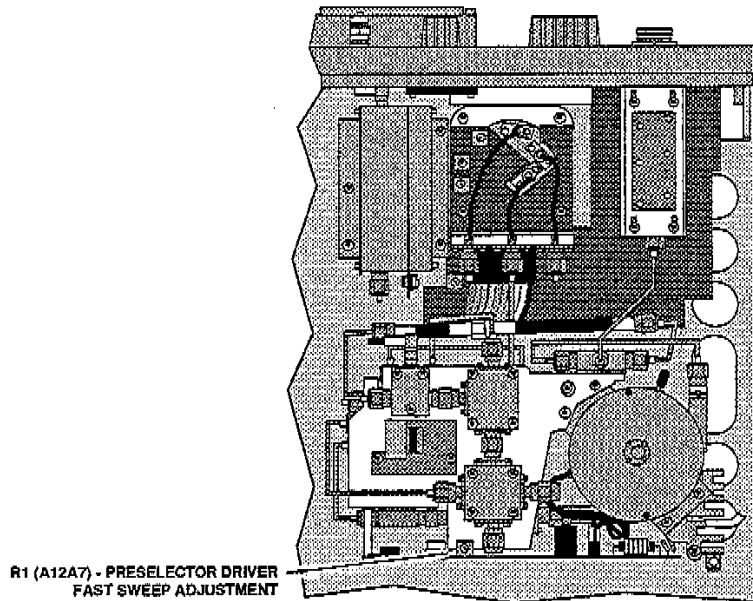

Figure 3-34. Fast Sweep adjustment and test point location.
10. Adjust the Preselector Driver Fast Sweep Adjustment R1 (A12A7) until no change in amplitude occurs when the sweep speed is varied from 500 ms to 50 ms (with KNOB 1). Refer to Figure 3-34.